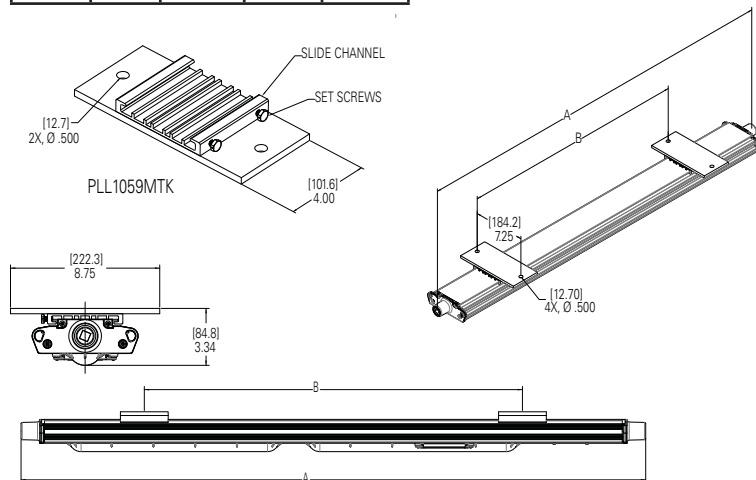

Figure 11
2. Mark and drill holes for fastening PLL1059MTK brackets. Use four (4) 3/8" bolts (not supplied) at center-to-center measurements (see Figure 11). For PLL1059MTK brackets, holes may be spaced as required. It is recommended to keep them at least 12" (305mm) apart (see Figure 11).
3. Fixture is now ready for mounting. It is strongly suggested to use two (2) qualified tradespeople to proceed with the final mounting of the fixture. This is recommended to avoid any personal injury or damage to the fixture.
5. Tighten the four (4) 1/4" set screws on slide channels until they bottom (see Figure 11). Torque to 78 in.-lbs. (8.8 N-m).